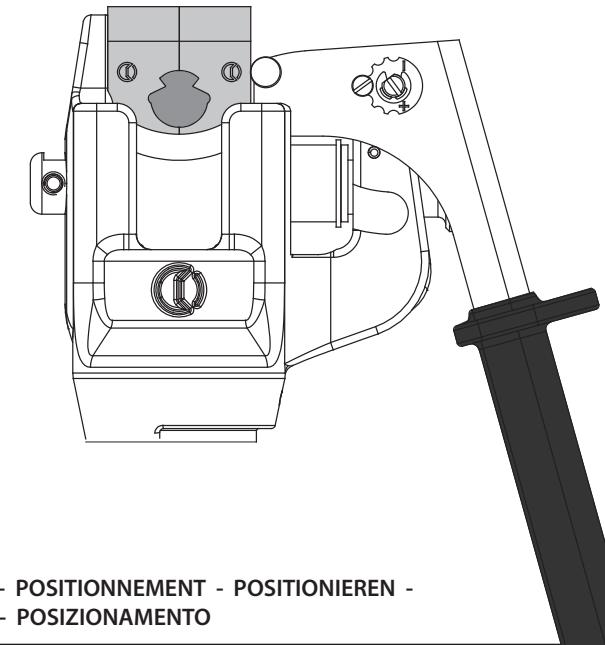

FIG. 4 POSITIONING - POSITIONNEMENT - POSITIONIEREN -
- Position the conductor inside the die set so that the blade (15) lines up with the desired cutting point.
- Close the die set (see Fig. 3) by moving the locking handle (49) towards the tool body, until automatically 'locked' in position and securely clamping the wire/conductor (see Fig. 4).